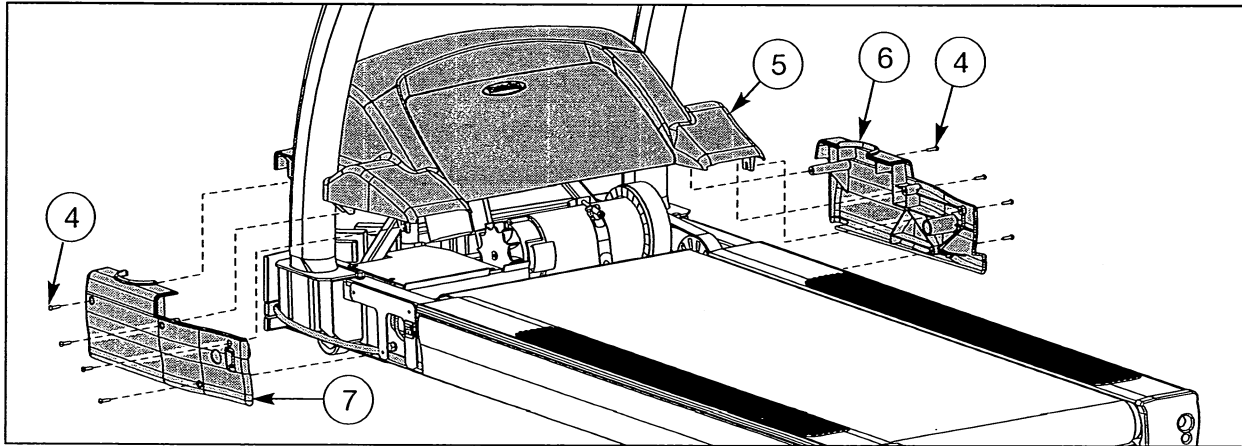

Figure 12
- A. Using a Phillips head screwdriver, partially tighten each motor cover side (left and right) with four 10-32 x .75 Phillips head screws. See Figure 12.
- B. Place the motor cover center into position. See Figure 12.